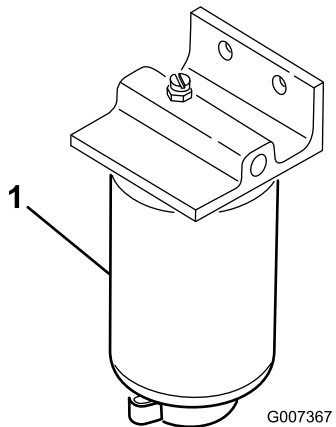

Figure 40
2. Clean the area where the filter canister mounts (Figure 40).
4. Open the filter drain plug and breather valve (Figure 40).